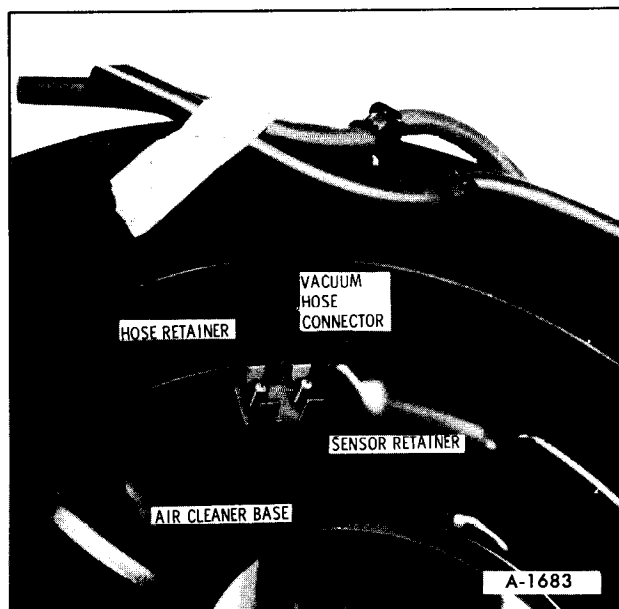

Figure 7—Sensor Retainer
3. Pry up tabs on sensor retaining clip and remove clip and sensor from air cleaner. Note position of sensor for installation (See figure 7).